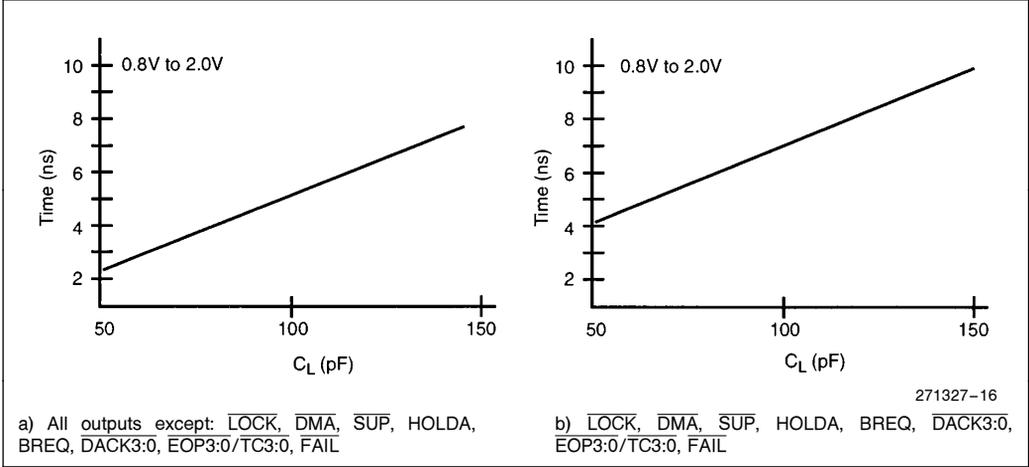

Figure 16. Rise and Fall Time Derating at Highest Operating Temperature and Minimum V_{CC}
- See Figure 16 for capacitive derating information for output delays and hold times.